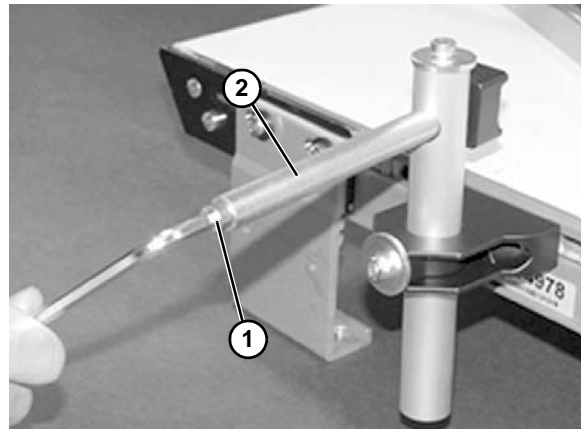
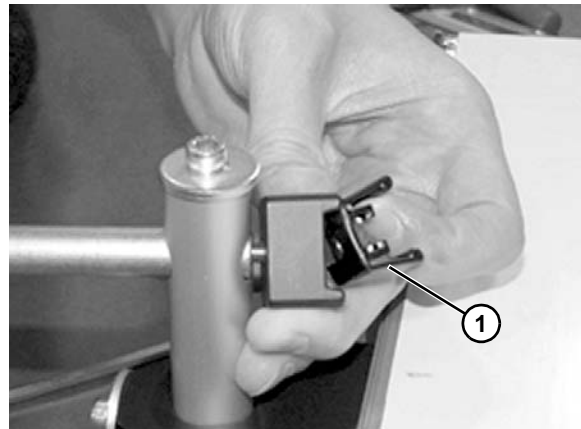
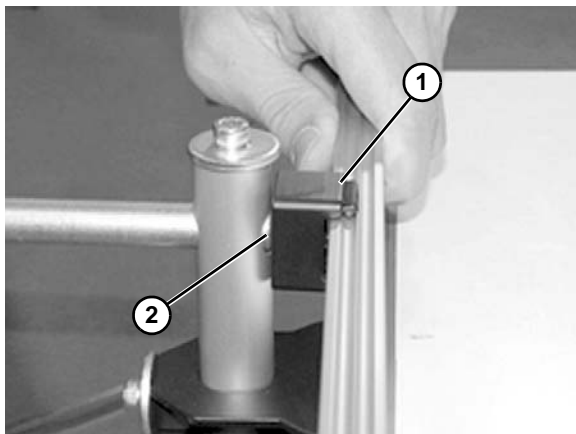

Figure 70
Figure 71
Figure 73
3. Loosen screw (**Figure 70, item 1**) on end of shaft (**Figure 70, item 2**) to remove clip (**Figure 71, item 1**).
5. Reassemble clip (**Figure 73, item 1**) and attach to shaft (**Figure 73, item 2**). Tighten screw (**Figure 70, item 1**) on end of shaft.